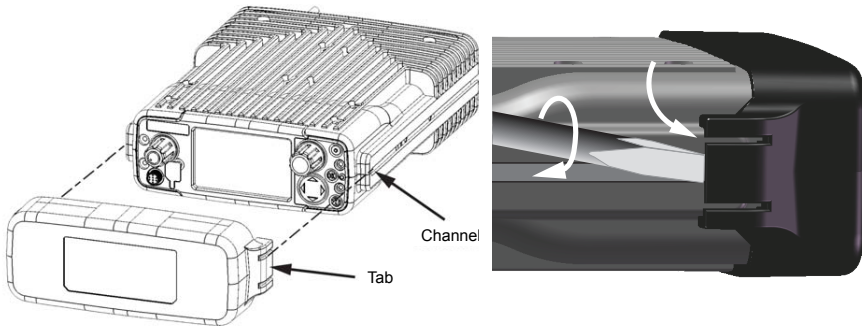

Figure 8 - KAA0661 Installation and Removal
2. Slide the cover over the front of the radio until the tabs click into the side channels of the radio. (See Figure 8.)
1. Use a flat blade screwdriver to pry up the tab while gently pushing toward the front of the radio. (See Figure 8.)